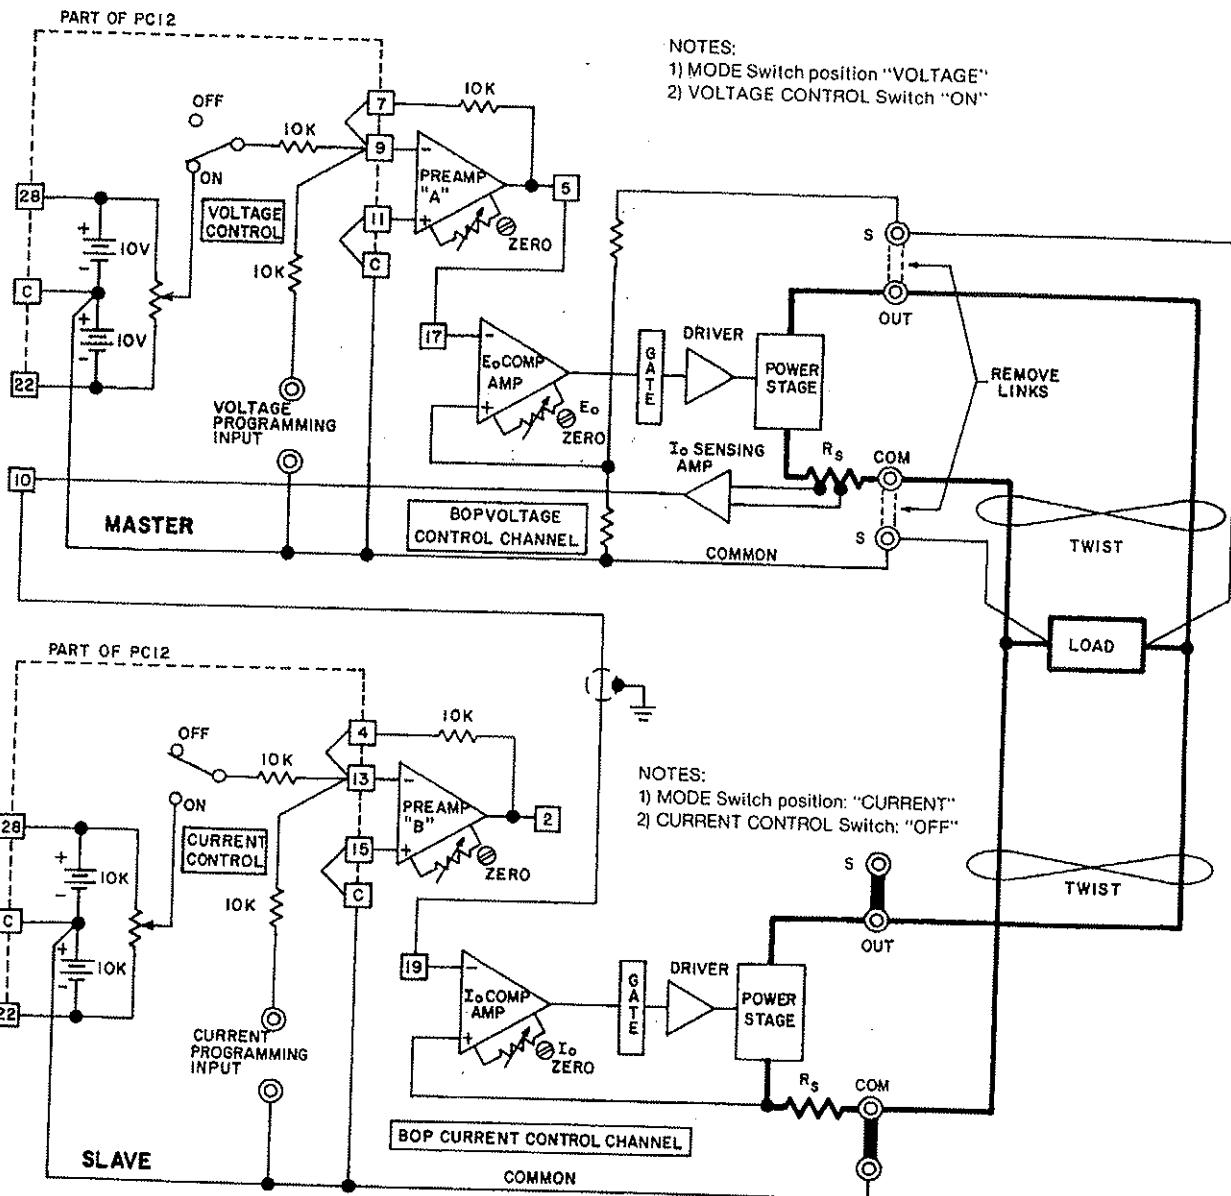

FIG. 3-27 MASTER/SLAVE PARALLEL CONNECTION OF TWO
- 1) Connect the BOP supplies as shown in FIG. 3-27. Set the MODE switches and the VOLTAGE and CURRENT CONTROL switches as directed in the set-up Diagram, FIG. 3-27. Load-wire size should be as large as practicable and load-wire pairs should be twisted to keep the d-c resistance, as well as the inductance, as low as possible. Use shielded cable for the drive signal connection between the BOP's. Connect the shield to common ground. Either the positive or the negative output side of the system can be grounded.
- 3) Following the set-up procedure as described above, turn BOP's "on" and commence operation. The system as shown in the set-up diagram (FIG. 3-27) operates in the Voltage Mode, since the MASTER MODE switch is in "VOLTAGE" position. For operation in the current mode, transfer the MASTER MODE switch to "CURRENT".
- 3-44 To add more BOP units to the parallel system shown in FIG. 3-27, simply place the output leads of the unit to be added in parallel to the load. Set its MODE switch to CURRENT and its CURRENT CONTROL switch to OFF. Now connect another shielded cable from the BOP designated MASTER in FIG. 3-27, terminal [10] on PC-12, to the new BOP to be added, PC-12 terminal [19].